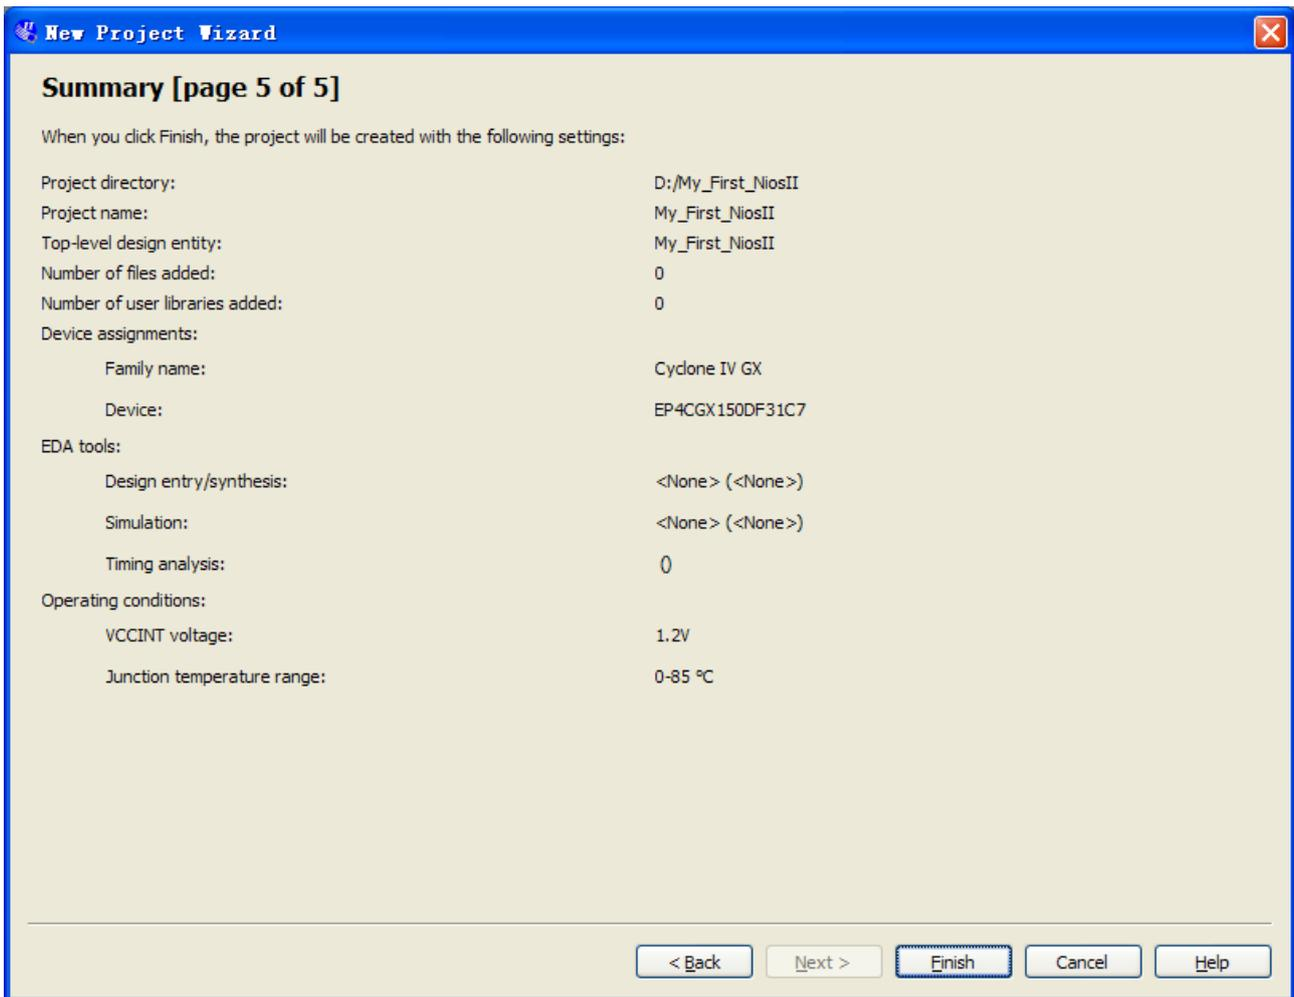
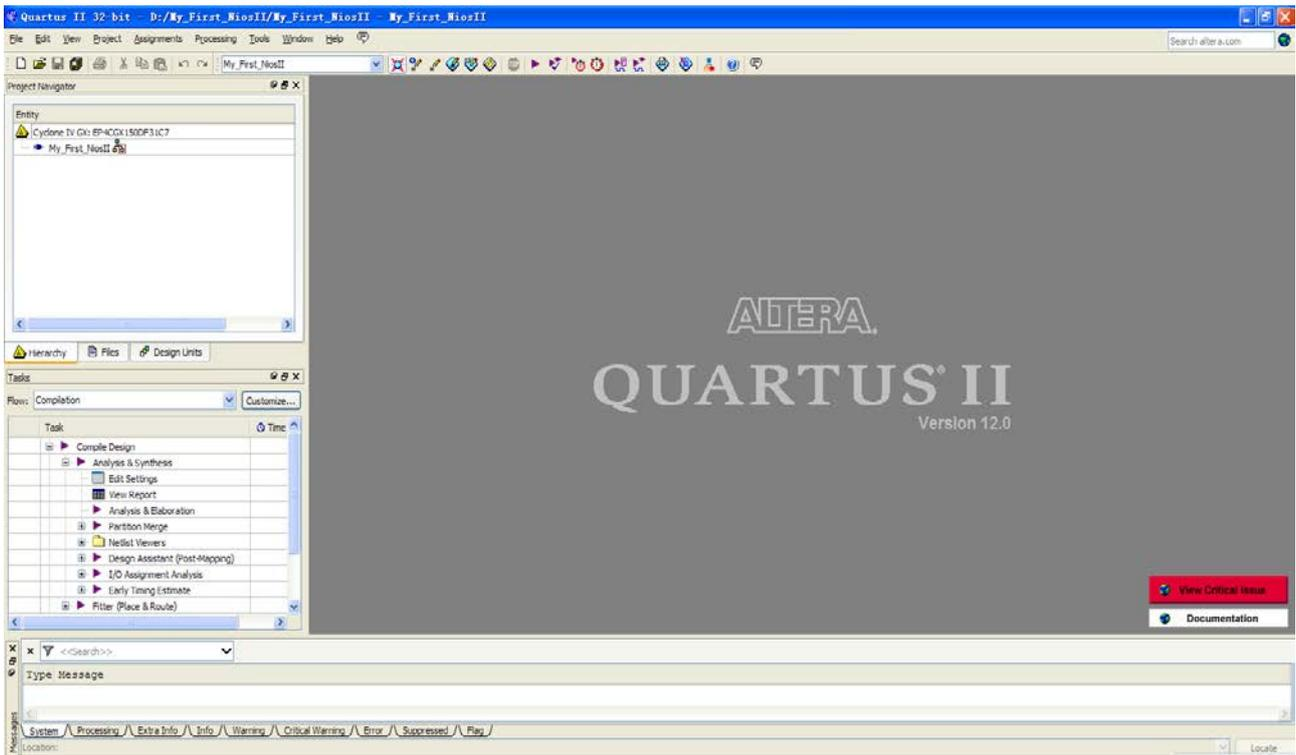

Figure 1-7 New Project Wizard: Summary [page 5 of 5]
Figure 1-8 A New Complete Project
- Click **Next** and will see a window as shown in Figure 1-7. Figure 1-7 is a summary about our new project. Click **Finish** to finish new project. Figure 1-8 show a new complete project.